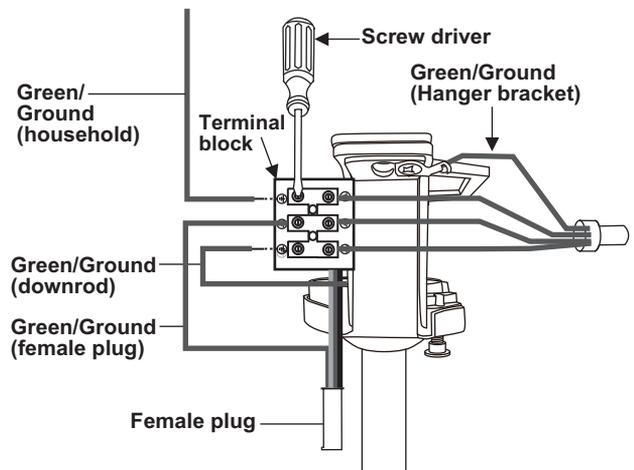

Figure 8
8. (Fig. 8) **NOTE: Make sure that coupling cover has at least 1/8" to 1/4" clearance between it and fan motor assembly. If this clearance is not given, the fan will not rotate.**
2. Connect the green/ground wires from the downrod ball to the terminal block “⊖” hole. (Fig. 8 & 11)
3. Connect the green/ground wires from the household and ceiling fan to the terminal block “⊖” hole. (Fig. 8 & 11)